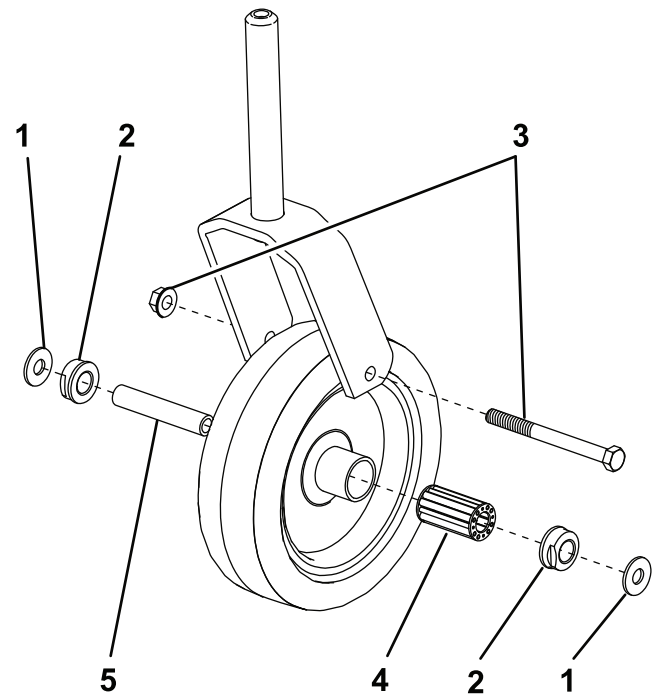

Figure 26
- Remove the capscrew and locknut holding the castor wheel and (2) washers between the castor fork (Figure 26).
- Pull the spanner bushing out of the wheel hub (Figure 26).
- Remove the bushing from the wheel hub and allow the bearing to fall out (Figure 26). Remove the bushing from the opposite side of the wheel hub.
- Install the castor wheel assembly and (2) washers between the castor fork, and secure all parts in place with the capscrew and locknut.